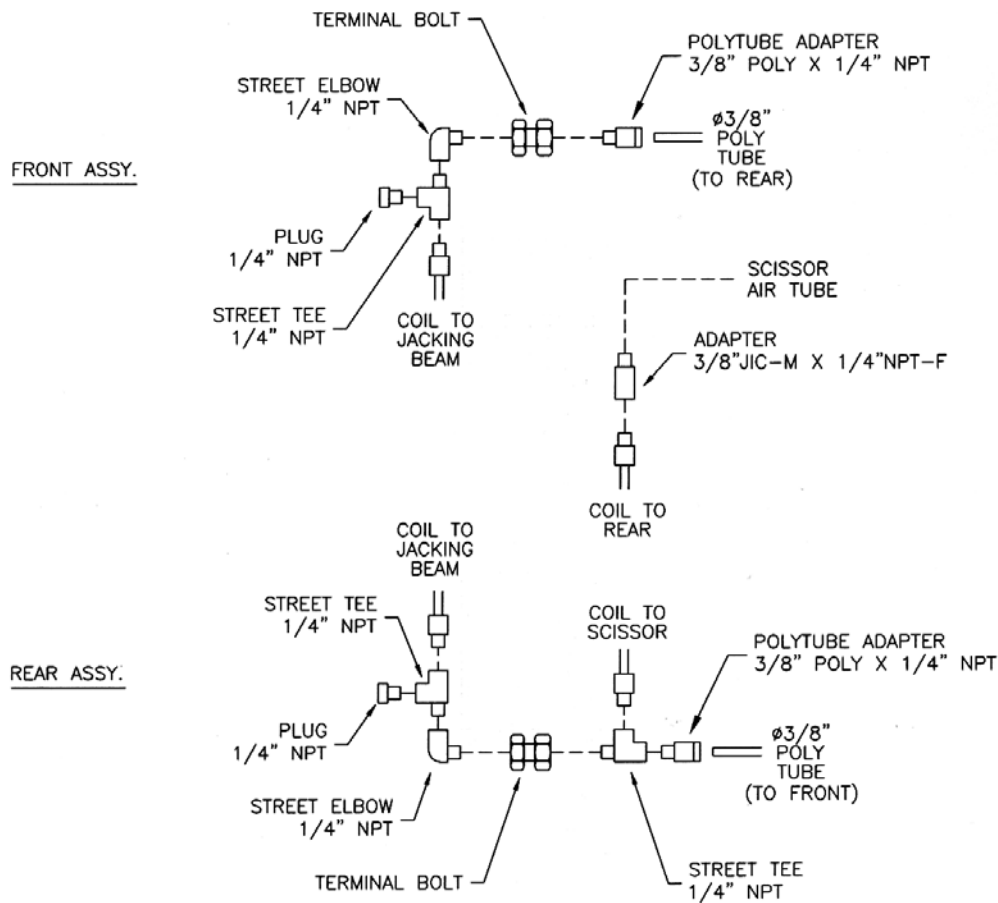

Figure 5 – Air Line Connections
3. Assemble the fittings to the front of the left side deck as shown in Figure 5. Connect the 3/8” polytube from the inside of the deck to the fitting assembly.
4. Assemble the fittings to the rear of the right side deck as shown in Figure 5. Connect the 3/8” polytube from the inside of the deck to the fitting assembly.
5. Remove one recoil hose from the accessory box and connect it to the rear fitting assembly as shown in Figure 5. Run the recoil hose under the deck and connect the opposite end to the air line on the scissors using the 3/8”JIC-M x 1/4”NPT-F adapter from the hardware kit.